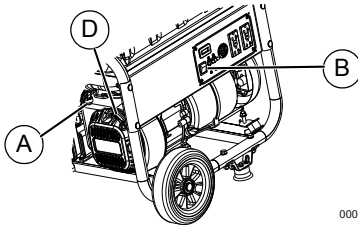

Figure 3-2. Engine Controls
3. See Figure 3-2. Open the fuel shut-off valve (A).
4. Turn engine RUN/STOP switch (B) to RUN. See Figure 3-2.
6. See Figure 3-2. Firmly grasp recoil handle (D) and pull slowly until increased resistance is felt. Pull rapidly up and away.